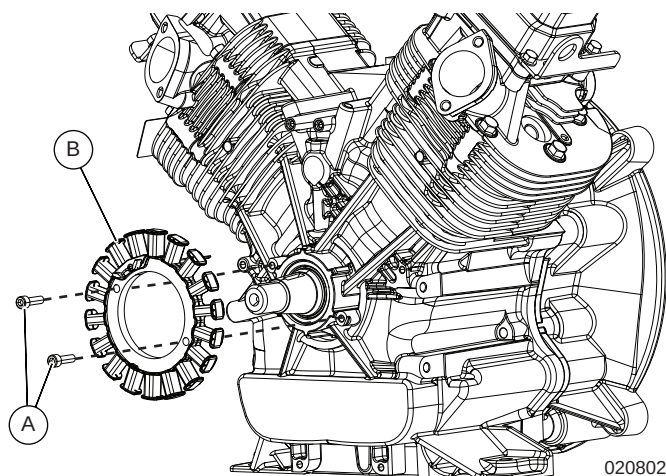

Figure 6-34. Remove the Bolts
2. See Figure 6-34. Remove the two bolts (A) securing the battery charger stator (B).